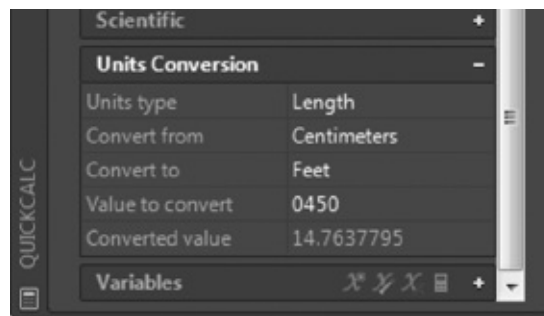

FIGURE 14.28 The expanded Units Conversion section
1. In QuickCalc, expand the Units Conversion section by clicking the plus sign to the right of the Units Conversion title bar (see Figure 14.28).